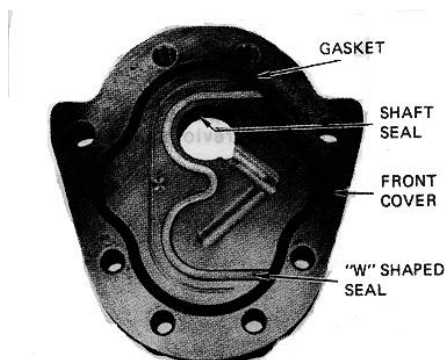

FIGURE 9-83.
a. Clean pump exterior. Remove woodruff key and capscrews. Separate rear cover from body. Remove and discard gasket. Remove front cover. Remove and discard front cover gasket. Lift out "W" shaped gasket seal and neoprene spacer (see figure 9-83). Drive out shaft seal.